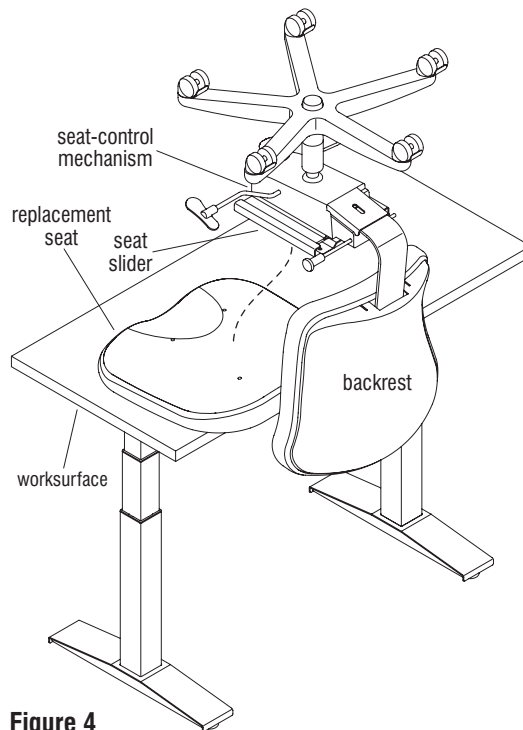

Figure 4
1. Place the replacement seat upside down on a hard, sturdy surface (table). Position the seat so the back is facing the edge of the table (Figure 4).
2. Carefully place the Impress Task Chair upside down on top of the replacement seat with the back portion of the chair hanging down over the edge. Align the seat slider mounting holes with the mounting holes on the base of the seat (Figure 4).